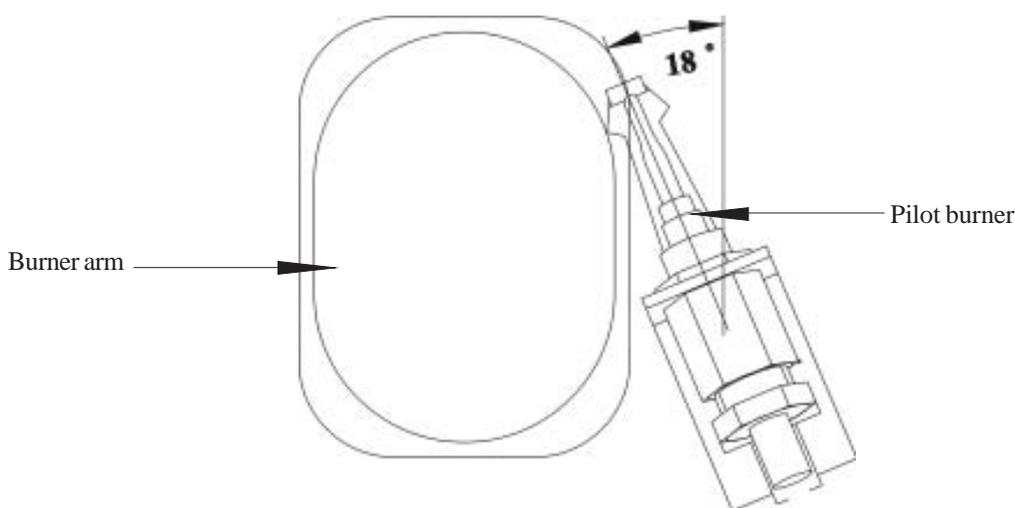

Fig. 5
- 7.4.6 Refitment or replacement is in reverse order, ensuring that the thermocouple connection at the Multifunctional control is not over tightened (finger tight + $\frac{1}{4}$ turn only), that the thermocouple interrupter 'tagged' insert is fitted at the Multifunctional control, and the relationship between the pilot assembly and the Main burner is as shown in Fig. 5.
- 7.5.4 Refitment or replacement is in reverse order, and ensure that the relationship between the pilot assembly and the Main burner is as shown in Fig. 5.